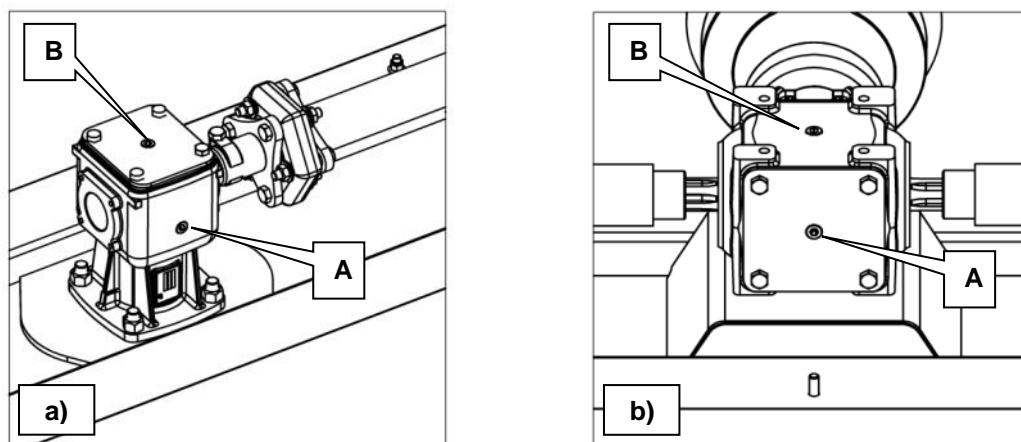

Figure 8.3
Checking the oil level in the gearboxes is by removal of the side Oil Level Plug, (A) in Figure 8.3, the level is correct when the oil is up to the bottom of the level plug orifice. If the gearbox requires 'topping up' add oil via the filler plug, (B) in Figure 8.3 until it starts to seep from the level plug orifice; replace both plugs securely to complete the task. The left hand 90degree drive box is shown in Figure 8.3 (Right hand is similar) along with the transfer 'Tee' box.